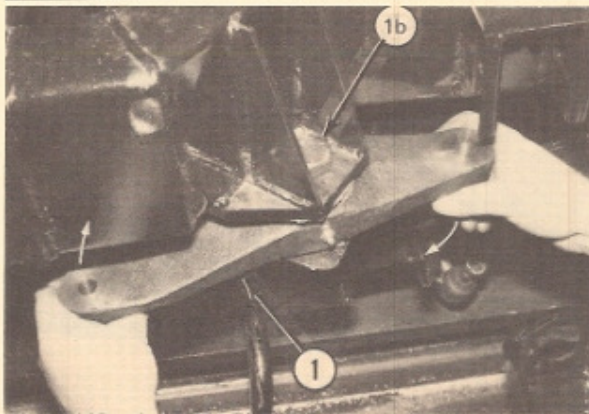

Figure 118 – Left Side Bellcrank
- b. Torque nut down to 100-150 ft. lbs. so as to allow arm to be moved with one hand firmly, with no up and down rocking movement (see figure 118).